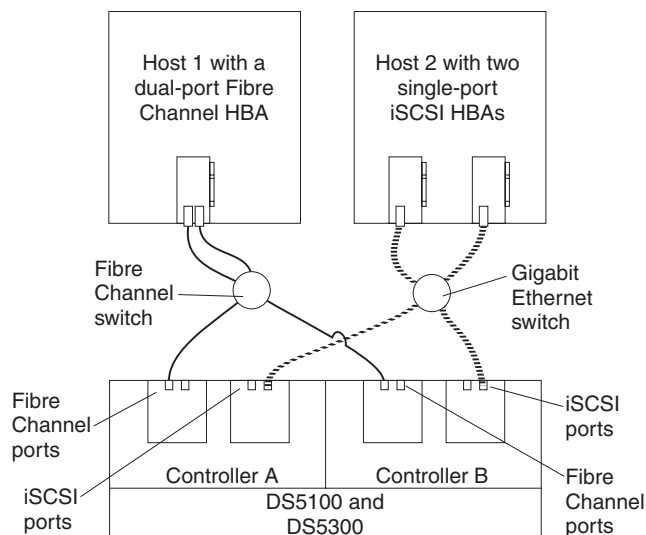

Figure 85. Example of iSCSI and Fibre Channel hosts, multiple-port configuration
- iSCSI and Fibre Channel hosts, multiple-port configuration, as shown in Figure 85 on page 120
Figure 85 shows iSCSI and Fibre Channel hosts in a multiple-port configuration.